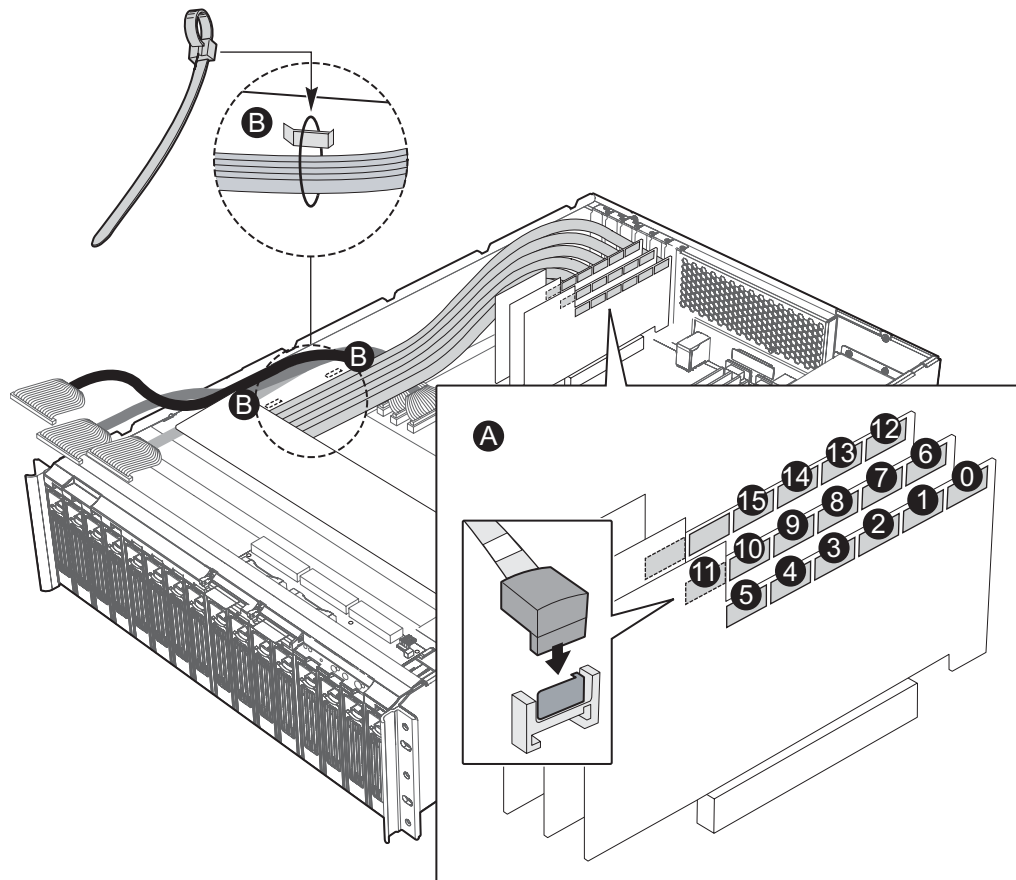

Figure 13. Re-connecting the SATA Cables to the HBA Cards
- A. Carefully re-connect the 16 SATA Cable connectors to the three SATA Host Bus Adapter Cards. Ensure that the SATA Cables are routed to the outside of the Host Bus Adapter Cards. See Figure 13.
- B. Insert new plastic cable ties through the steel links on the side of the chassis where the SATA Cables are normally routed. Bundle the SATA Cables in the same way they were originally bundled and snap the ties tight into place around the cables. Wrap new plastic cable ties around the SATA Cables in the other spots where the original plastic cable ties were cut, and snap the ties tight into place around the cables. See Figure 13. A total of seven new plastic cable ties should be used. Route the SATA Cables along the side of the chassis in the same way that the original SATA Cables were routed. The cables remain on the chassis side of the Host Bus Adapter Cards and connect to the cards from the chassis side.